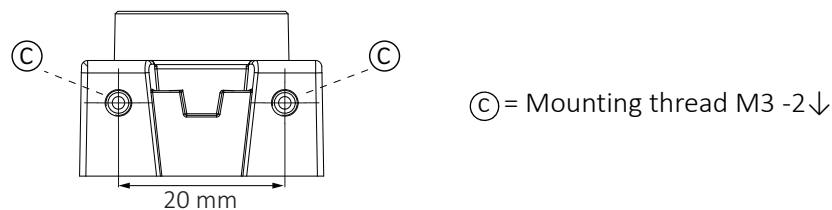

Figure 24: Alvium USB camera, top and bottom with mounting threads
1. Mount the camera to the base using suitable M3 screws at 0.6 Nm maximum torque for a thread engagement of 2.5 mm between screws and mounting threads, see Figure 24. For technical drawings, see Camera dimensions on page 37.